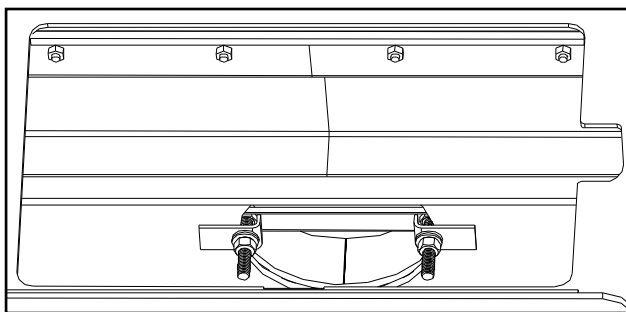
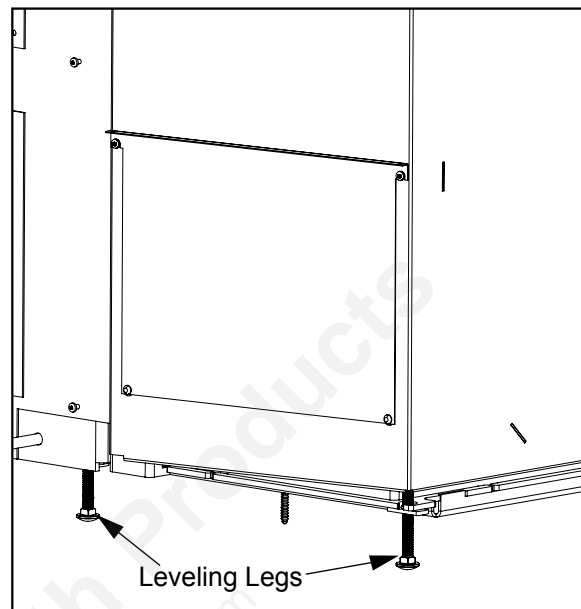

Figure 14: Removable flue collar in place.
Figure 15: Leveling legs.
- f)** Place the Collar Puller, over the two bolts of the Flue Collar and pull it into place (see Figure 14). Ensure that the bolts are to the left and right of the hole. If they are not, the front secondary air tube will need to be removed in order to install or remove the C-Cast Ceramic Baffles.
- h)** Re-install C-Cast Ceramic Baffles and the rear two (2) secondary air tube (see C-CAST CERAMIC BAFFLE INSTALLATION).
- 3.** There are four (4) leveling legs (shown in Figure 15), two (2) on each side, one at the back and one at the front of the unit. Adjust the legs using a  $\frac{3}{8}$ " wrench to ensure the unit is stable.